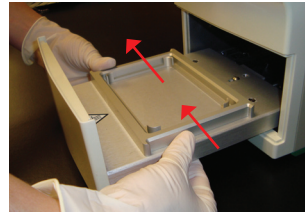
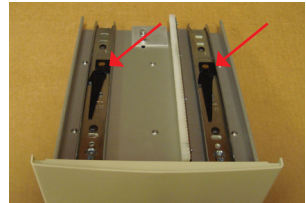

Fig. 14. Top of the drawer. Arrows indicate the direction to push the release tabs to remove the drawer.
Fig. 15. Underside of the drawer. The black tabs (arrows) can be pushed to release the drawer from the tracks.
4. Reach under the bottom of the open drawer (Figure 14) and push both tabs to the left. Figure 15 shows the underside of the drawer. (Black tabs should be pushed to the left when the instrument faces up.)